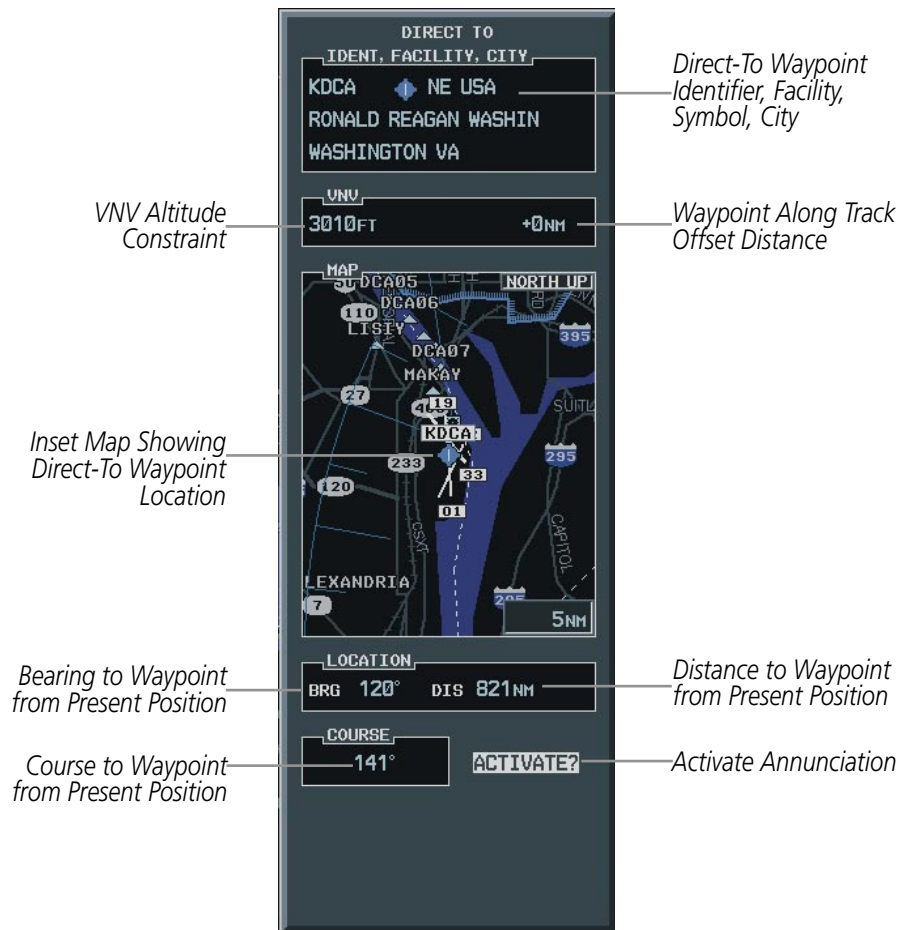

Figure 5-21 MFD Direct to Window
**NOTE:** The Direct-to Window Inset Map (Figure 5-21) range is adjustable. To change the map range, turn the Joystick to the left to select a lower range, turn it to the right to select a higher range.